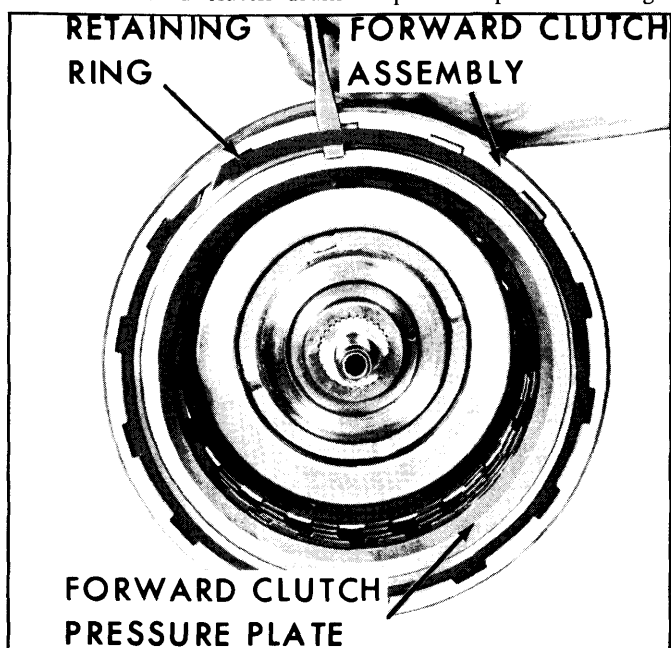

**Fig. 7-79—Direct Clutch Drum to Forward Clutch Housing Needle Roller Bearings**
1. Remove direct clutch drum to forward clutch housing needle roller bearing. (Fig. 7-79)